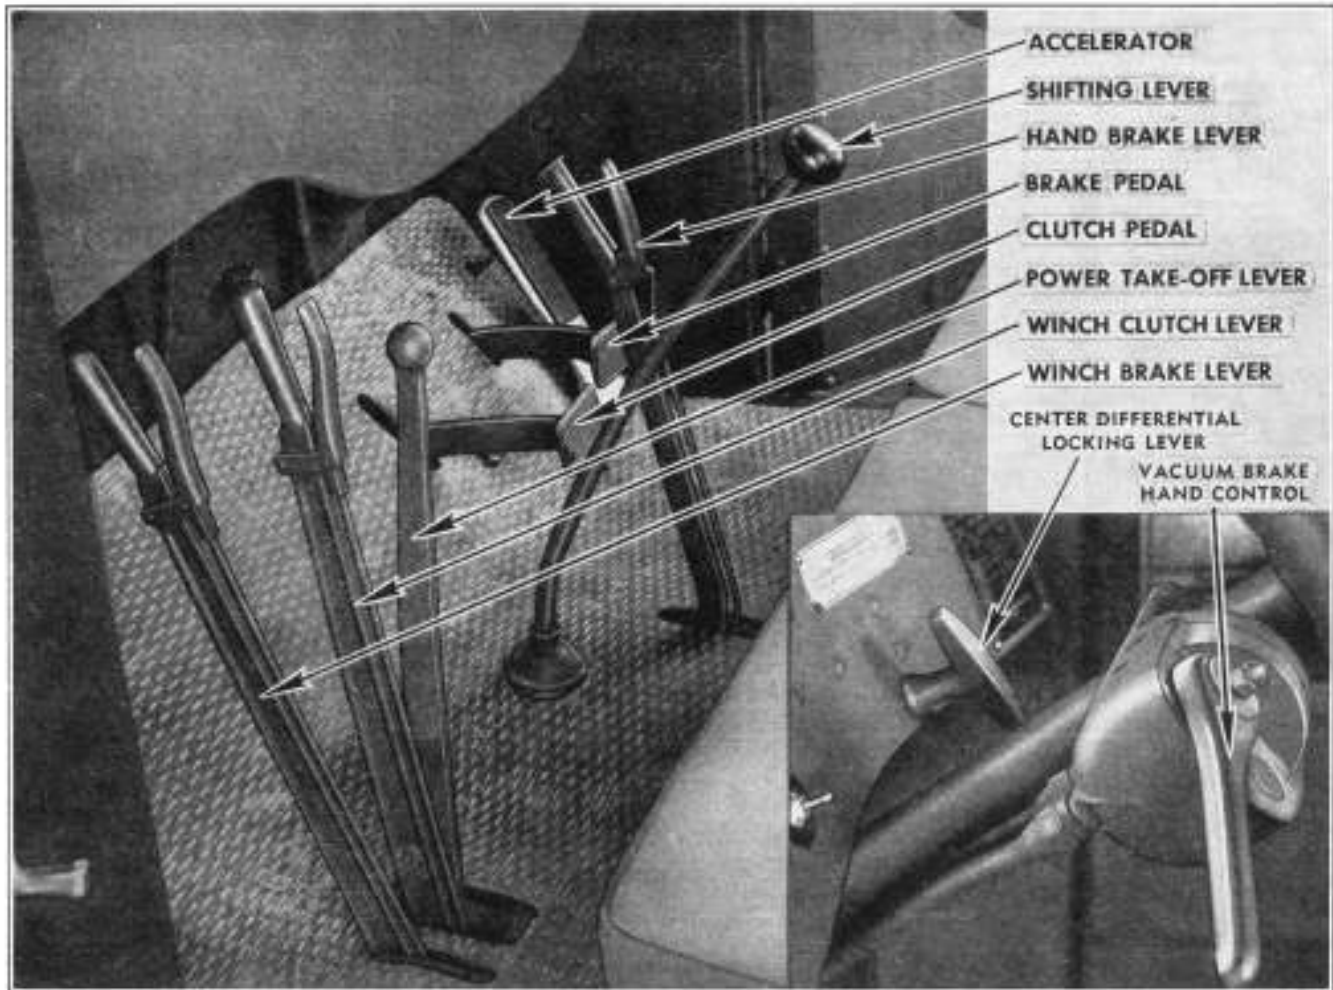

Fig. 7, View of Controls
(10) **Accelerator Pedal** (fig. 7). The accelerator pedal located on the floor board to the right of the steering gear, is used to control engine speed with the right foot while driving the truck.
(11) **Clutch Pedal** (fig. 7). The clutch pedal, located on the floor boards directly in front of the operator, is to be operated with the left foot. Depressing the pedal to the floor boards disengages the clutch so that the transmission gears may be shifted.
(12) **Brake Pedal** (fig. 7). The foot brake pedal, also located on the floor boards and directly in front of the operator, is operated by the right foot and is depressed to slow down or stop the vehicle.
(13) **Winch Power Take-off Lever** (fig. 7). The hand lever, third from the left side and protruding from the floor boards, controls the winch. Extreme rear position is the high speed for winding the cable and extreme forward position is low speed for winding. Center position is the reverse gear for unwinding. There are two neutral positions, one between high and reverse and one between low and reverse.
(14) **Winch Clutch Lever.** (Fig. 7). The lever next to the power take-off lever is the winch clutch lever. With the clutch disengaged, it allows the winch drum to become free. The forward position is engaged position and to the rear is disengaged position.
(15) **Winch Brake Lever** (Fig. 7). The lever to the left of the winch clutch lever controls the winch drum. It is used principally for holding a load. The brake is released when the lever is in the forward position and applied when pulled back toward the seat.
(16) **Transmission Gearshift Lever** (fig. 7). This lever is located to the right of the power take-off lever. Its purpose is to control the shifting of all gears in the transmission. The diagram (fig. 2) shows the different positions of the lever for various gear selections in the transmission. **CAUTION:** Always be sure that the gearshift lever is in the neutral position before starting the engine.
(17) **Hand Brake Lever (Parking)** (fig. 7). This lever is the one to the left of the driver. It is used principally for holding the truck while parked. The hand brake is released when the lever is in the extreme forward position, and applied when pulled back toward the seat. When pulled back, the lever will lock in position. In order to move it forward the grip latch must be released by squeezing it to the lever handle.